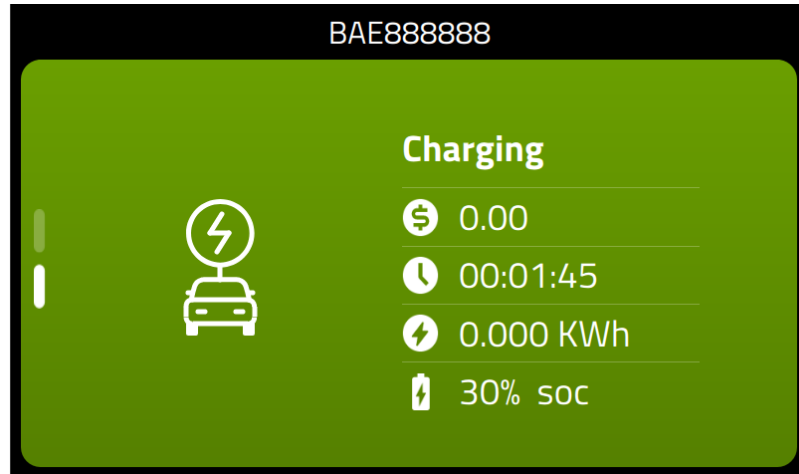

Fig. 60 – Active Charging display
- Fig. 60 shows an active charging session.